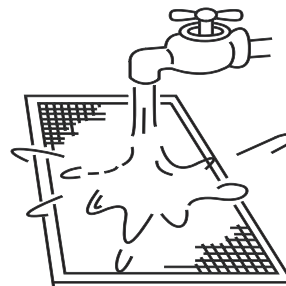

Figure 6-9
- b. The air inlet side should face downwards if you are using clean water. (see Fig. 6-9).